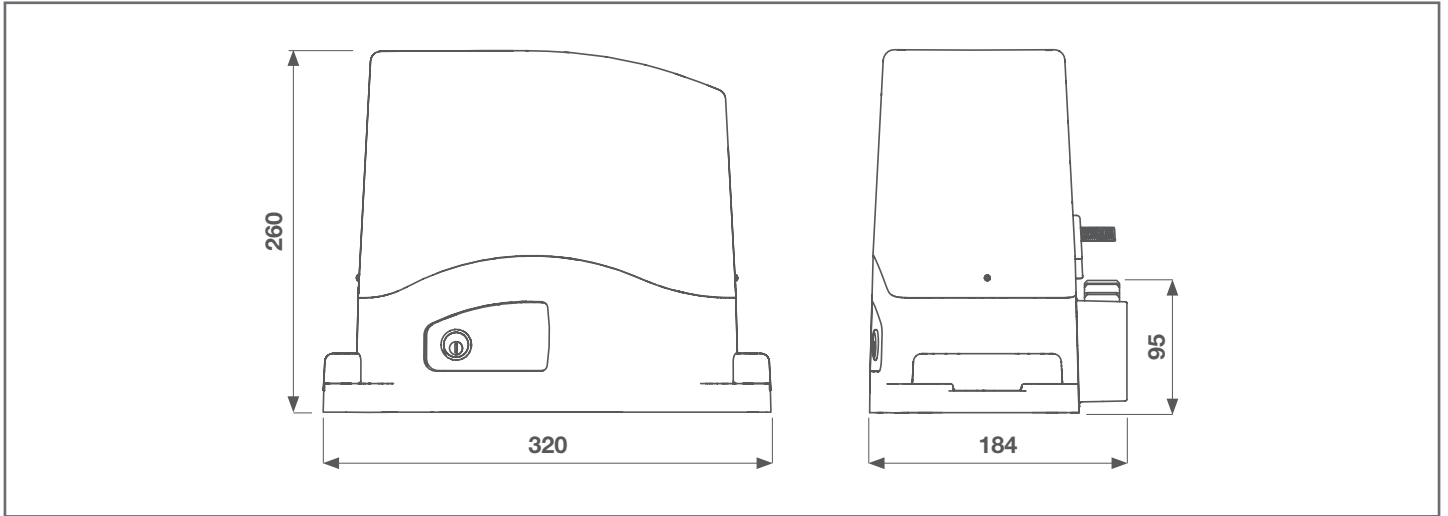

Fig. 2
- The weight and size of the gate or door must be within the maximum permissible operating limits specified in Fig. 2
Fig.2 is an example of a typical system: